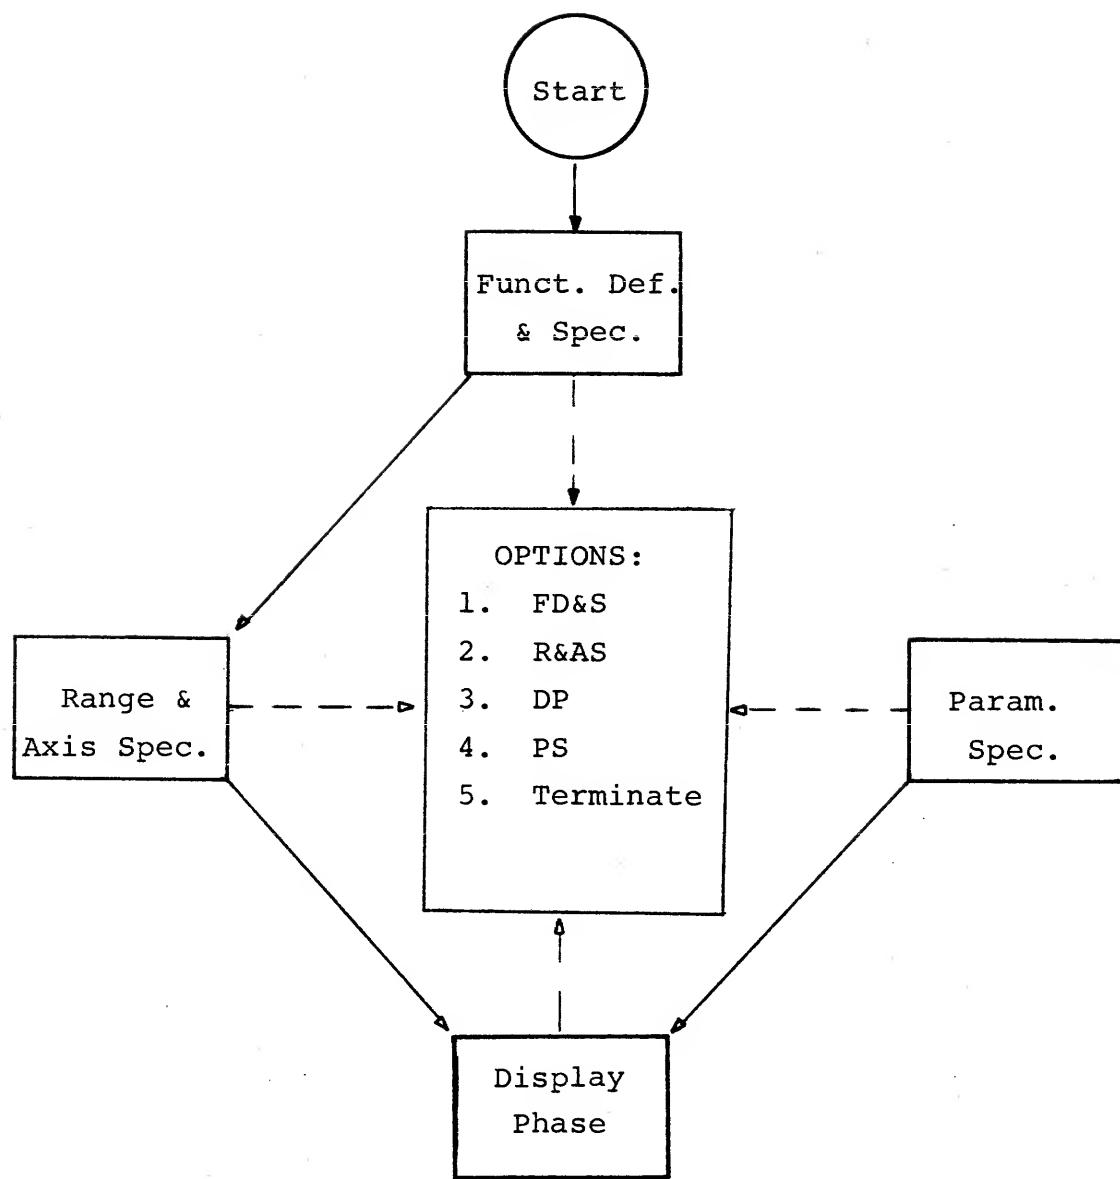

Figure 1
- C) Display Phase (DP)
- D) Parameter Specification (PS)
To utilize GROPE efficiently it is necessary to understand the purpose of each phase, the relationships between phases, and how to transfer from one phase to another. A schematic representation of GROPE is shown in Figure 1. The solid lines indicate the natural flow from one phase to another and this is achieved by depressing the carriage return button (CR)[†] at the end of each phase. The natural flow of GROPE is the same as the procedure followed when producing graphs by hand. That is, the first phase, FD&S, allows functions to be defined, parameter values to be assigned, and specification of the types of plots to be made. The second phase, R&AS, requests information concerning the extremities of the axis and the location of the axis origin. When the preplotting information is complete, the Display Phase is entered, axes drawn, plots labelled, and the specified functions plotted.
Program execution should be terminated by typing QUIT,T(CR) which is the last option shown in Figure 1. This type of orderly termination allows the GROPE staff to keep statistics on the use of the system.